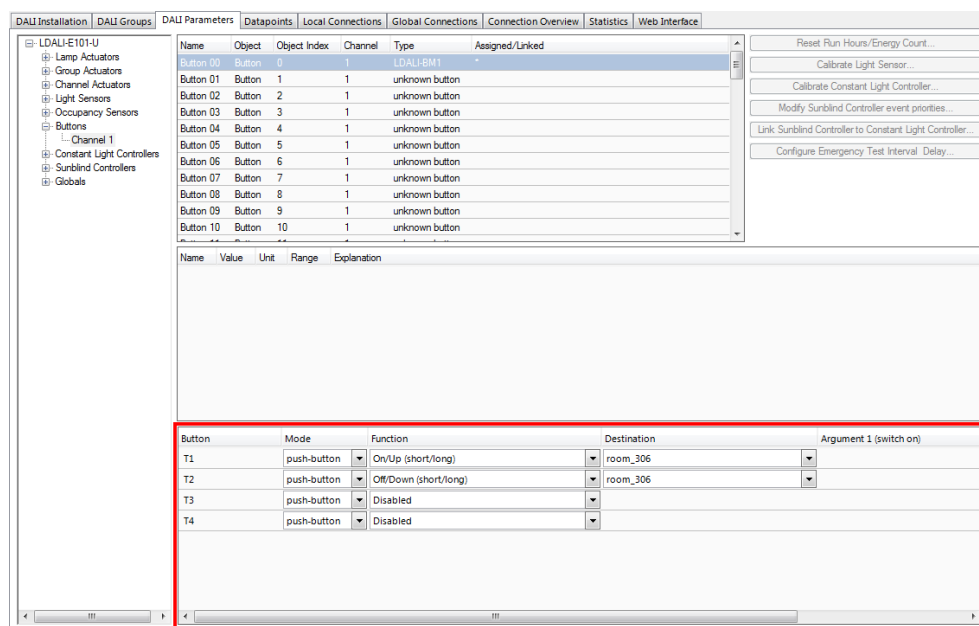

Figure 22: Parameterize DALI button functions.
1. Stay on the **DALI Parameters** tab and select the button object to which you have assigned your DALI button as shown in Figure 22.